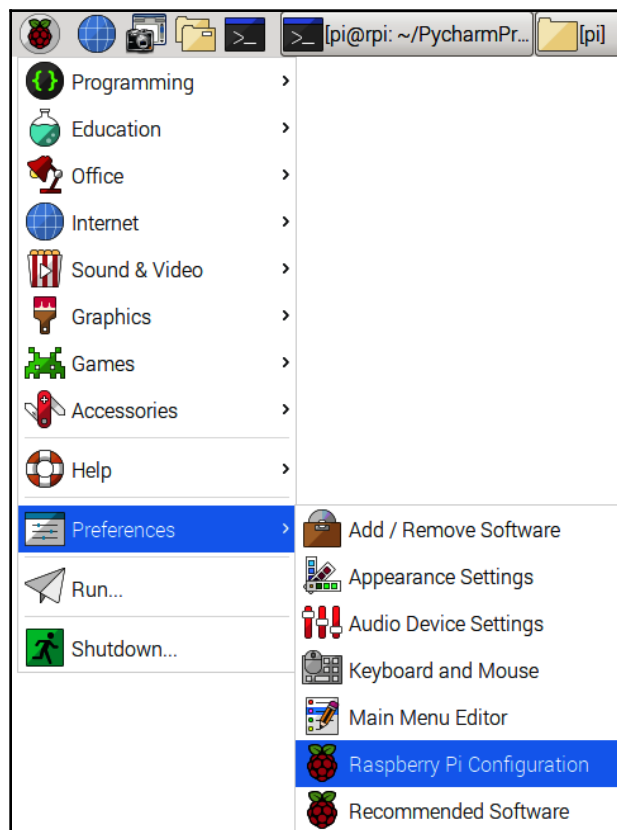

Figure 1.2 – Location of the Raspberry Pi Configuration menu item
1. From your Raspbian desktop, navigate to the **Raspberry** menu | **Preferences** | **Raspberry Pi Configuration**, as shown here in *Figure 1.2*: